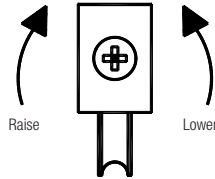

FIG. 21
- B) Slide the lock side of the active panel within 1/16" from the side jamb interior stop or astragal. The gap between the edge of the panel and inside stop or astragal must be consistent along the vertical length of the panel. If this is not the case with your unit, you must make adjustments to the rollers. The rollers can be adjusted with a screwdriver on the screws located at the base, on the edges of the panel. Turning the screw in one direction will raise or lower that side of the panel. Make your final adjustments. (Fig. 21) Taking the weight off the rollers will allow for easier adjustment.